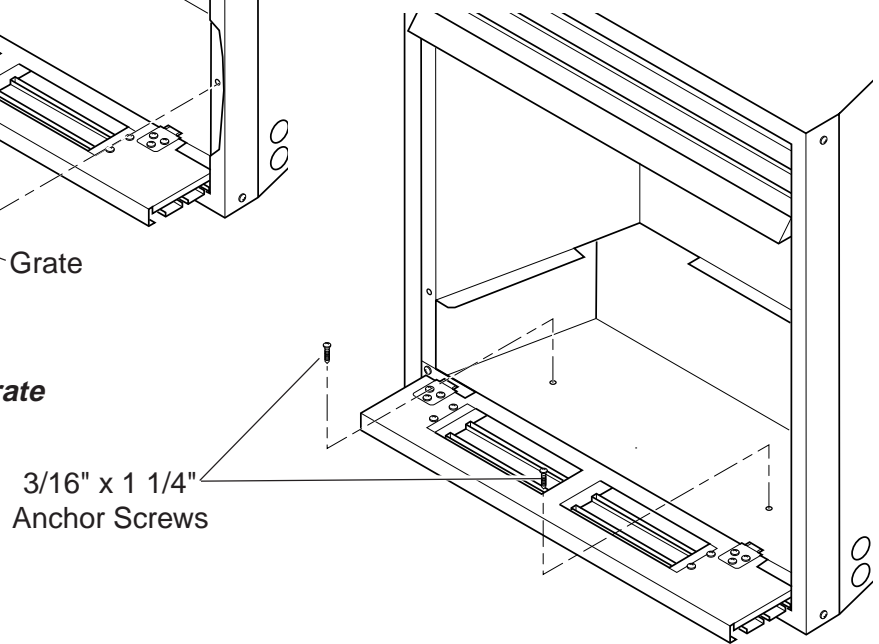

Figure 17 - Securing Heater to Floor or Hearth
5. Secure the firebox with two anchoring screws ($\frac{3}{16}$ " x $1\frac{1}{4}$ " length) supplied with the fireplace system. Refer to *Figure 17*.